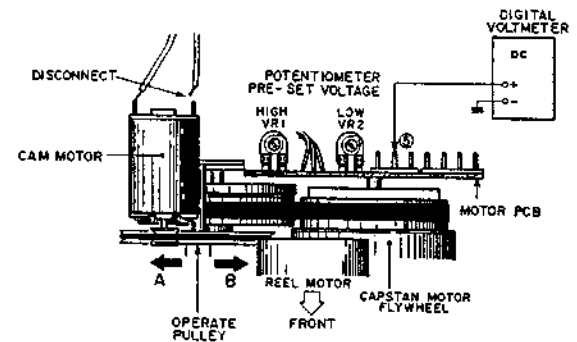

Fig. 4-1
4-1. POTENTIAL VOLUME PRESET VOLTAGE ADJUSTMENT (Refer to Fig. 4-1, 4-2)
- b. Connect the digital voltmeter as shown in Fig. 4-1.